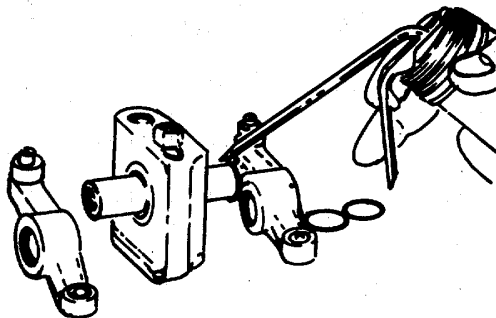

FIGURE 3-43. Shaft Lubrication
- (2) Lubricate shaft with engine oil. (FIGURE 3-43)